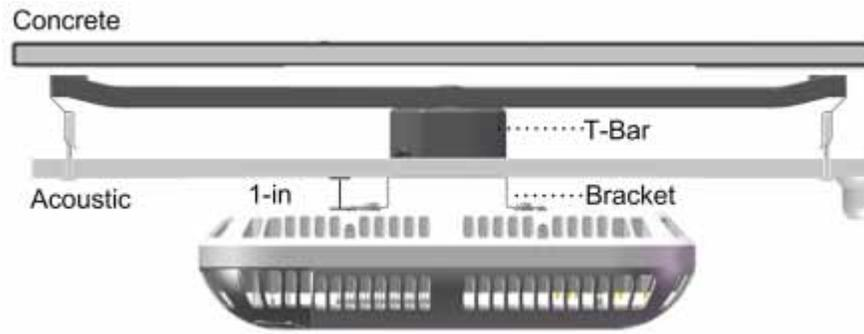

Figure 5-55. Below Acoustic Ceiling Installation
2. Install the T-Bar on the ceiling above the acoustic tiles (according to manufacturers' instructions) and route the previously located connections cables through the center of the RAU Mounting Bracket. See Figure 5-55.